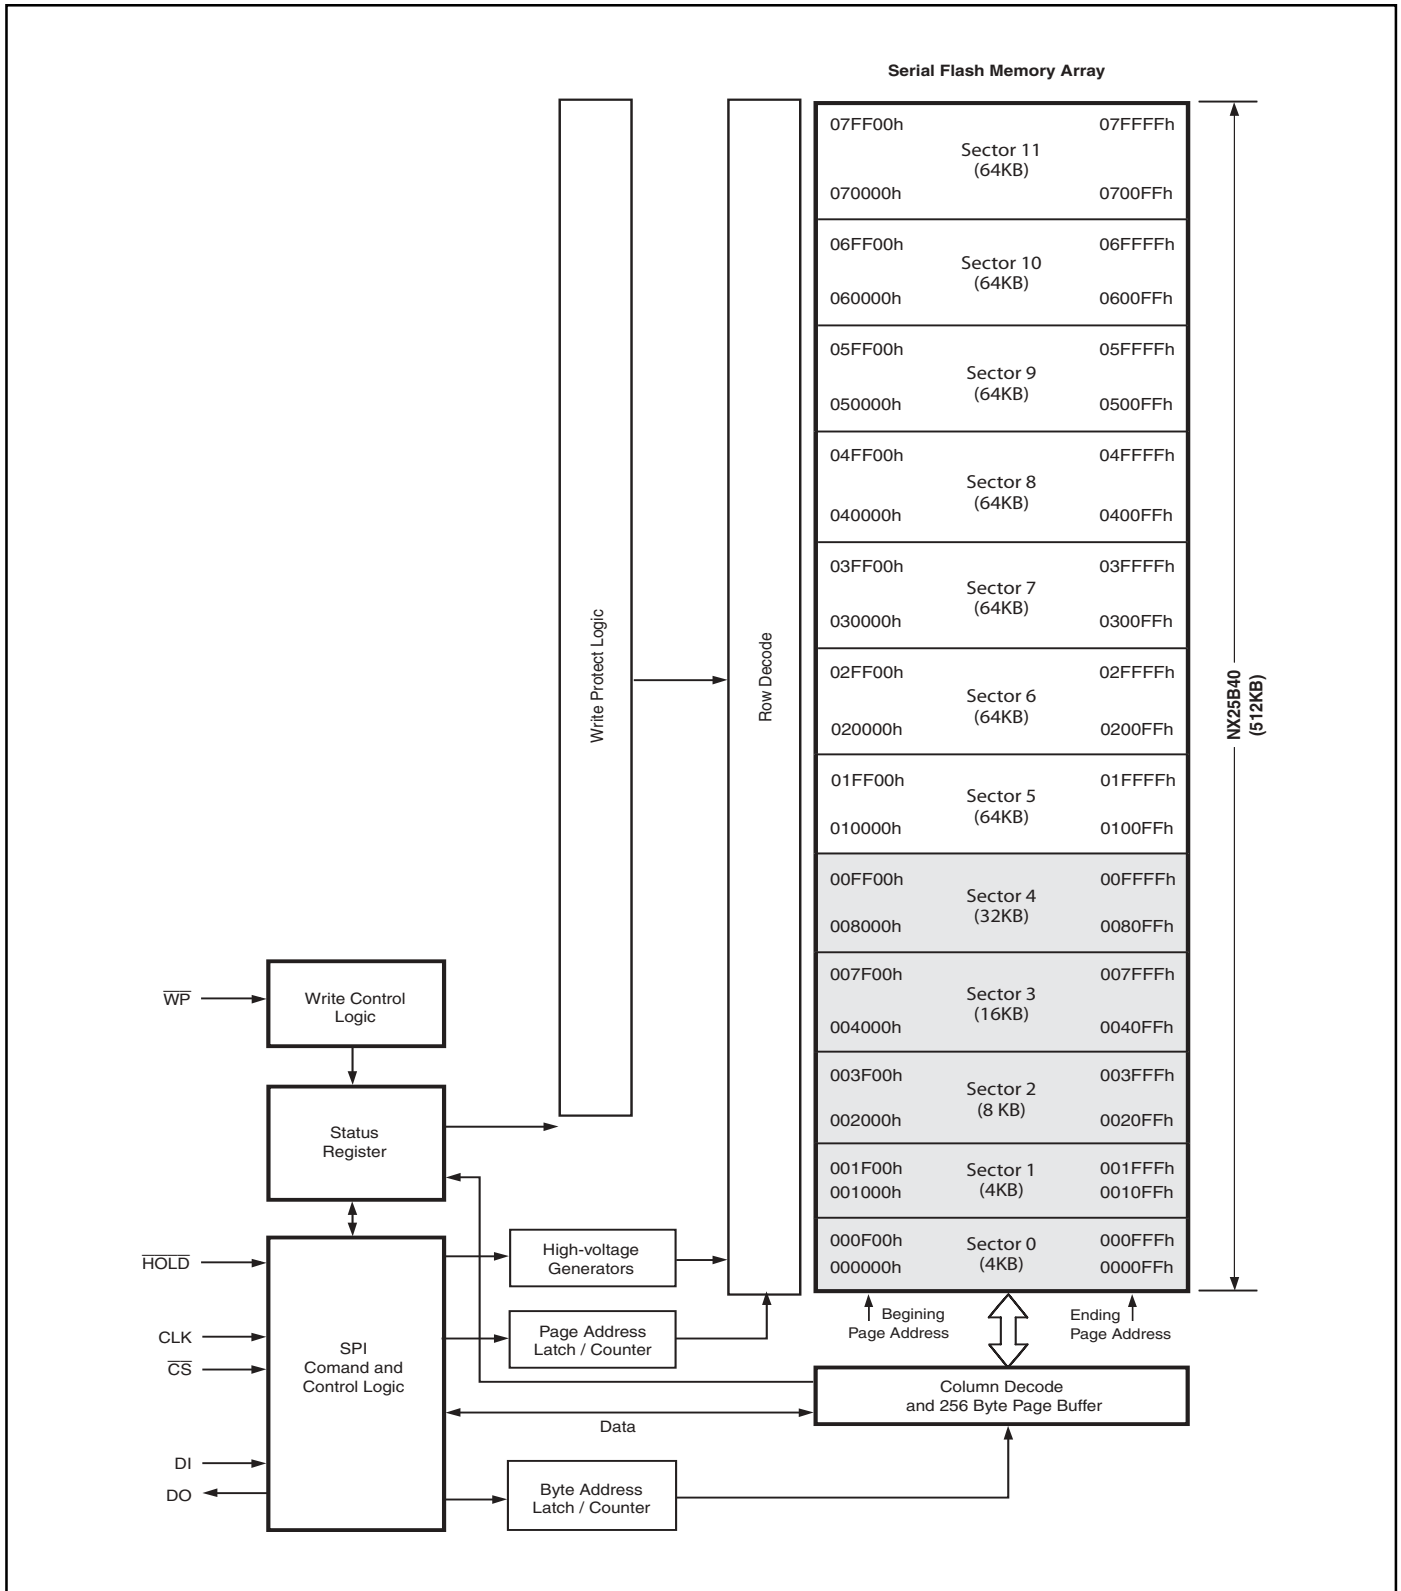

Figure 1. NX25B40 Block Diagram for Bottom Boot Sector Organization
- The NX25B40 has twelve sectors instead of eight including: seven sectors of 64KB, one sector of 32KB, one sector of 16KB, one sector of 8KB and two sectors of 4KB. (see figure 1 and 2)